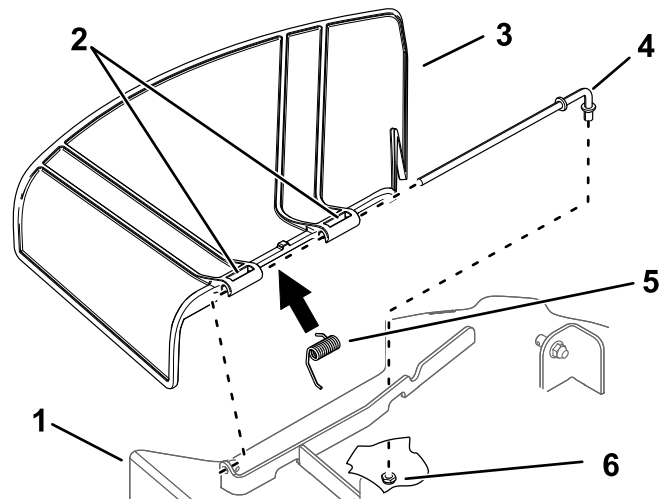

Figure 71
1. Remove the nut (3/8 inch) from the rod under the mower (Figure 71).
2. Slide the rod out of the short stand-off, spring, and grass deflector (Figure 71).
4. Install the new grass deflector (Figure 71).
7. Slide the rod through the second grass-deflector bracket (Figure 71).
9. Secure the rear end of the rod into the mower with a nut (3/8 inch) as shown in Figure 71.